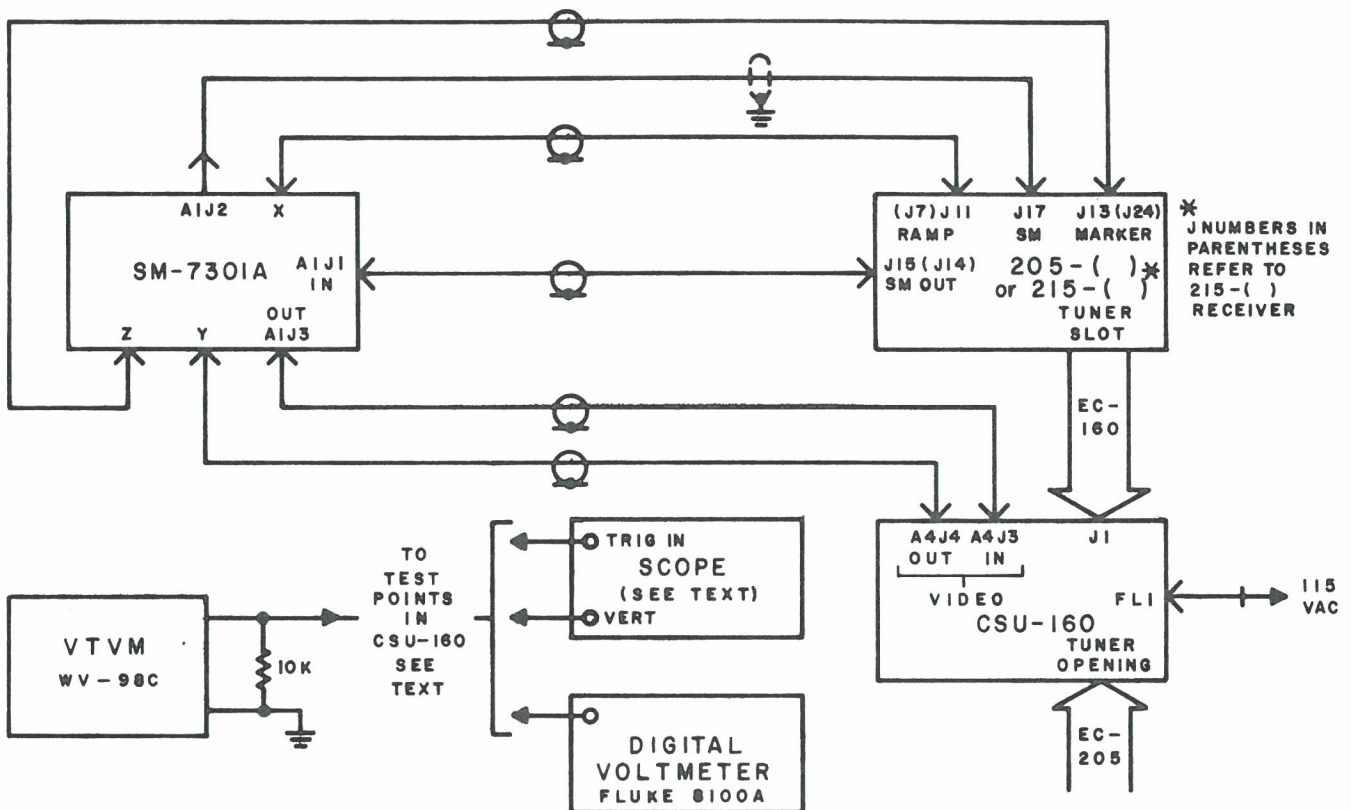

Figure 4-7. Test Setup, CSU-160 Adjustment Procedures
- (1) Connect the equipment into an RS-160 System as shown in Figure 4-7.
- (2) Set the mode switch on the 205-() Receiver to PAN. Set the SWEEP RATE and SECTOR WIDTH controls to their fully clockwise positions.
- (3) Set the MODE pushbuttons on the CSU-160 to LOCAL and AUTOSCAN. Set the DISPLAY pushbutton to EXPAND and depress the SCANNED pushbuttons for tuners 1 and 7.
- (4) Remove all of the tuning heads from the CSU-160.
- (5) Use the VERTICAL POSITION control on the SM-7301 Signal Monitor (located behind the hinged door next to the signal monitor screen) to bring the bottom trace even with the baseline on the signal monitor screen.
- (6) Adjust trimpot A4A5-R20 to put the upper trace in the exact center of the signal monitor screen. (R20 adjusts the position of both traces, so that each time the pot is turned, both traces will move.)
- (7) Readjust the VERTICAL POSITION control on the signal monitor to bring the bottom trace even with the baseline on the signal monitor screen.
- (8) Repeat steps (5) through (7) until the top and bottom traces are both in their proper positions on the signal monitor screen.
- (9) Change the DISPLAY pushbutton from the NORMAL to the EXPAND positions. If the bottom trace on the signal monitor screen moves, adjust A4A5-R47 until it does not move when changing between NORMAL and EXPAND.
- (10) Set the DISPLAY pushbutton to EXPAND. Change the MANUAL/AUTOSCAN pushbutton between its MANUAL and AUTOSCAN positions. If the bottom trace on the signal monitor screen moves, adjust trimmer potentiometer A4A5-R38 until the bottom trace does not move when changing between MANUAL and AUTOSCAN.
- (11) Repeat steps (5) through (11) until the interaction between the adjustments is minimized.